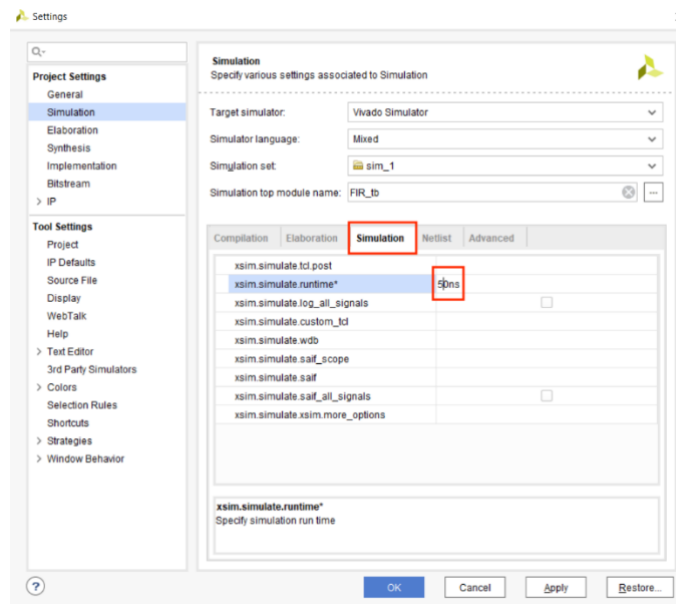

Figure 18 Setting simulation runtime
- e) Click on the “Simulation” tab to modify the simulation runtime as shown in Figure 18. In this lab, 50ns is enough. Click on “OK” to confirm this setting.